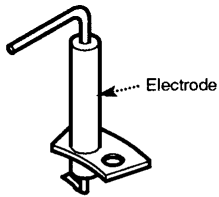

Fig. 42
10.5 Cleaning the Electrode (Fig. 42 & 43)